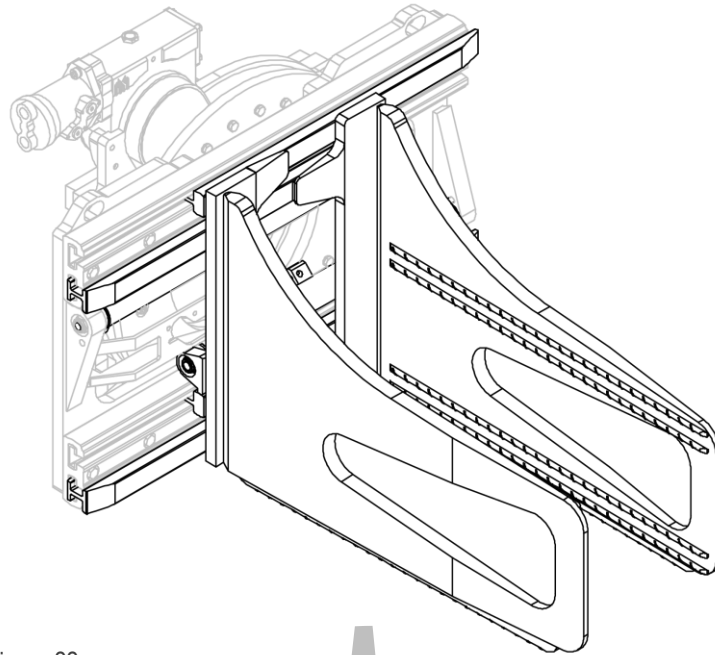
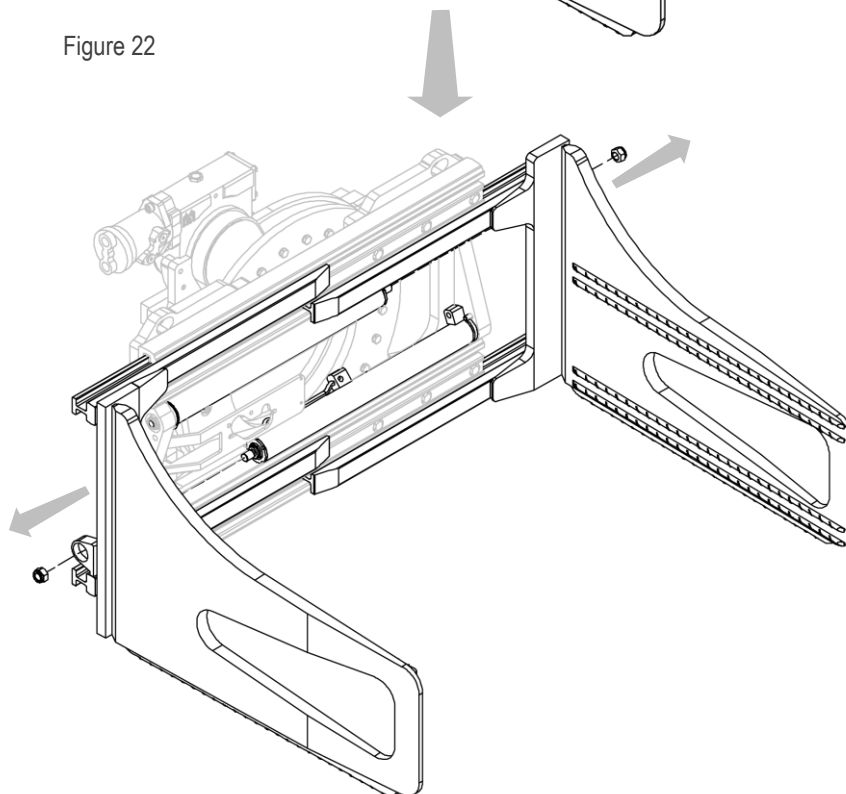

Figure 22
Figure 23
2. Remove fork assembly + jaws after unscrewing the nuts securing them to the cylinders (see *Figure 22* and *Figure 23*).